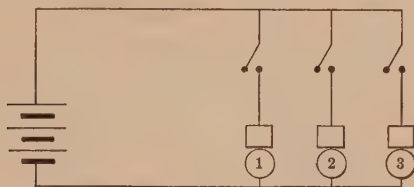

FIG. 60.
**Prob. 4.** In Fig. 60, bell 1 requires 0.2 amp. to operate it, bell 2 requires 0.4 amp., bell 3 requires 0.8 amp. When all three bells are ringing at the same time, what current flows from the cells?